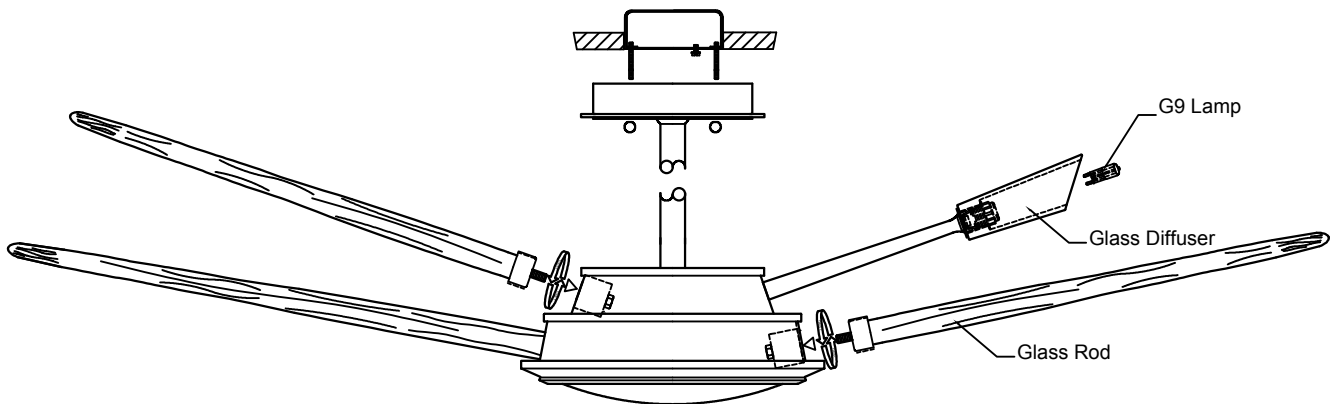

FIGURE-3
- For Glass Rod installation: Place the glass rod according to schedule seen in the following page. Carefully turn rod to lock. (See Figure-3)